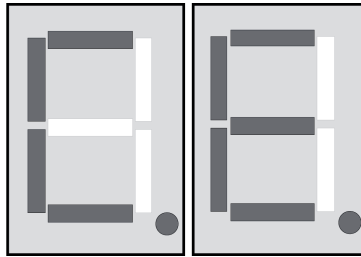

Figure 10: Indication CE – „Clear Entry“
- Press **Enter** button (9) for approx. 3 seconds.
**CE** (Figure 10) appears on the display.